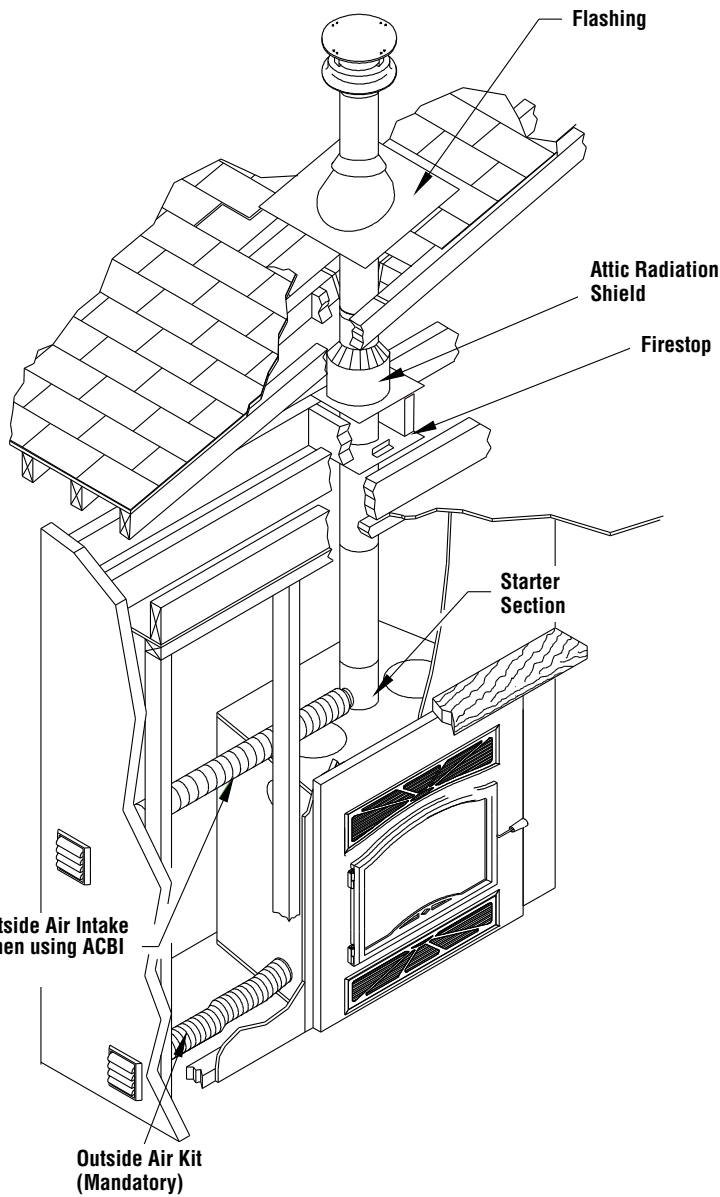
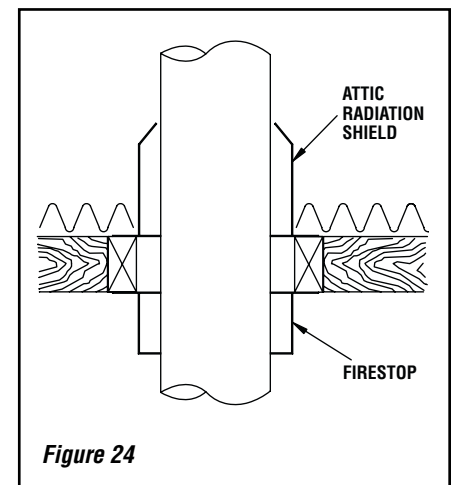

Figure 22
Figure 24
2. From below, install a firestop in each ceiling/floor separation through which the chimney will pass. At the attic level, install an attic radiation shield from above, (see **Figure 24**). S2100+\* and ASHT+\*: Place the first chimney length on the fireplace, to lock turn 1/4 of a turn clockwise. ACBI\*: A starter section must be installed before installing the first chimney length (see **Figure 22**).